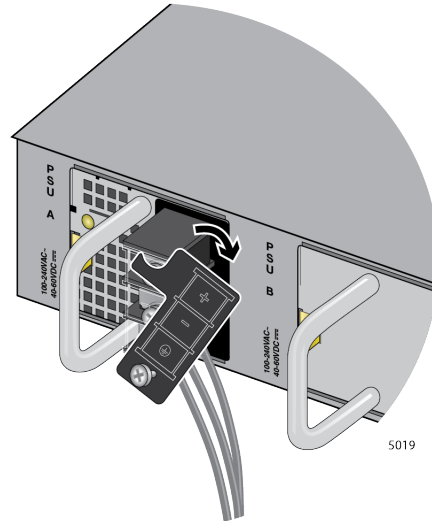

Figure 148. Accessing the Connecting Screws
4. Press the panel to the right to access the connecting screws as shown in Figure 148 on page 249.